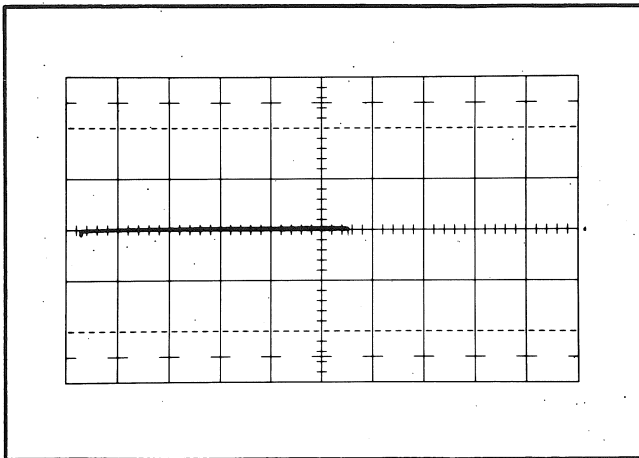

Fig. 5-7. Typical pulse waveform showing check of overshoot or ringing.
- c. Check—Overshoot or ringing maximum 0.8 mm (0.4 minor graticule division) on a 4 cm signal. See Fig. 5-7.